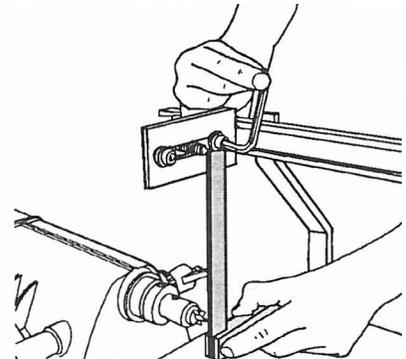

Fig. B-12
10. Move the precision square to the side of the lathe drive center's tip, as done by the left hand in Fig. B-12. Align the template center's tip, then tighten the two cap screws, as seen by the right hand in Fig. B-12. Double check alignment by placing the precision square on the other side of the tips. Re-adjust accordingly.